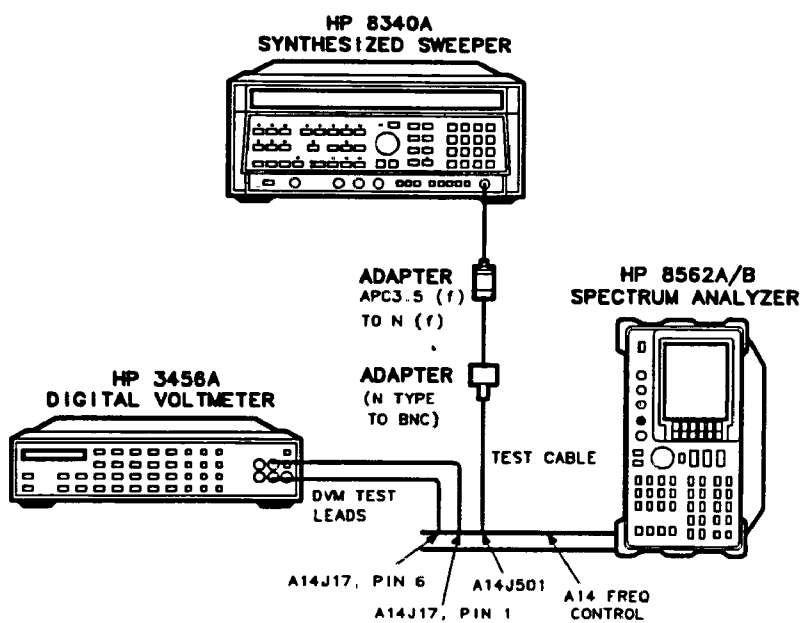

Figure 11-1. YTO Loop Test Setup
13. Disconnect W32 to A14J501 and connect the output of a signal source to A14J501. Connect a DVM's positive lead to A14J17 pin 1 and negative lead to A14J17 pin 6. See Figure 11-1.